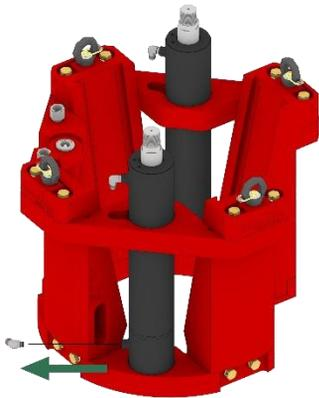

Fig. 25
Step 2: Remove the upper and lower hydraulic fitting from the cylinder housing. See Figure 25.